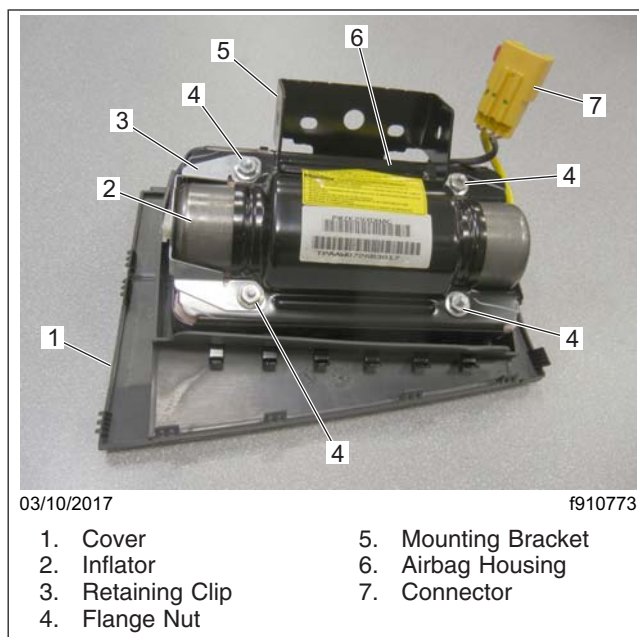

Fig. 8, Airbag Assembly
11. Remove and discard the four flange nuts that secure the inflator retaining clip and the inflator to the airbag housing. See Fig. 8.
16. Peel the protective covering off the squib receptacle on the end of the airbag inflator. Press the squib connector into the receptacle. See Fig. 8.